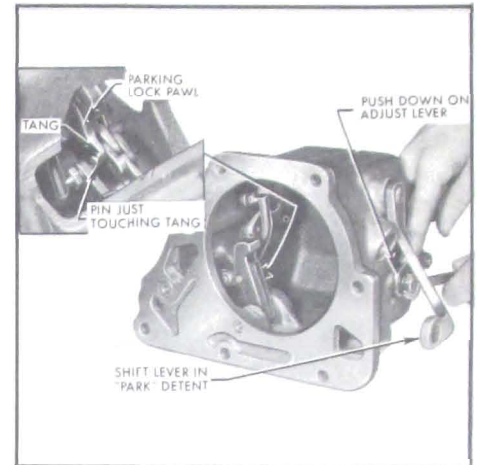

Figure 5-101—Linkage Adjustment
3. Push down on forward end of lever until slight resistance is felt. Pin at rear of pawl should be touching tang at rear of pawl. Tighten bolt. See Figure 5-101.